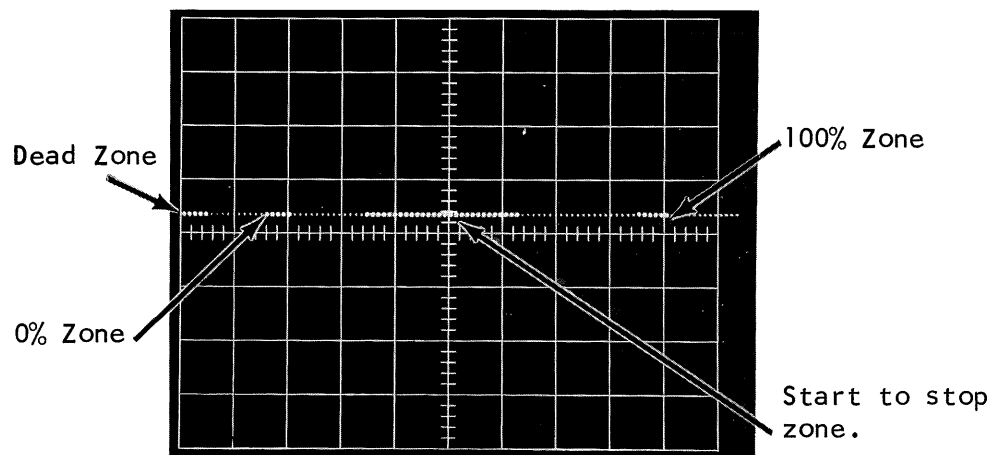

Figure 2-39
3. Turn on the 567. On the 3T77, set the TRIGGER SENSITIVITY control full CW. On the 6R1A, set the TIMING START and STOP controls to MANUAL. The START and STOP SLOPE controls must be set to first +. Adjust the START and STOP MANUAL controls for an intensified zone that is about 3 divisions wide. The memory zones and the start to stop zone should not overlap. On the 3T77, set the DOTS PER DIV to 10. See Figure 2-39.